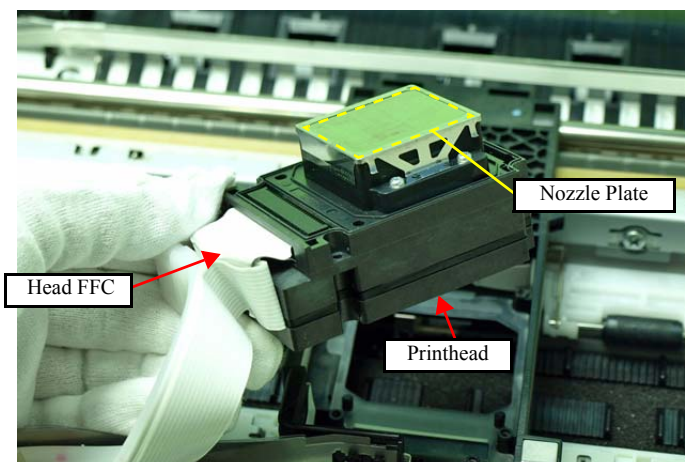

Figure 4-59. Removing the Printhead (2)
- When handling the Printhead, make sure not to touch or damage the nozzle plate surface of the head. (See Fig. 4-59.)